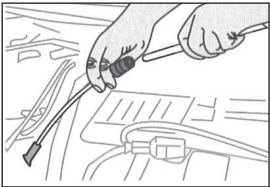

Figure 4
3. Insert the appropriate diameter extension probe into the dipstick hole until it reaches the bottom of the oil pan (Figure 4).